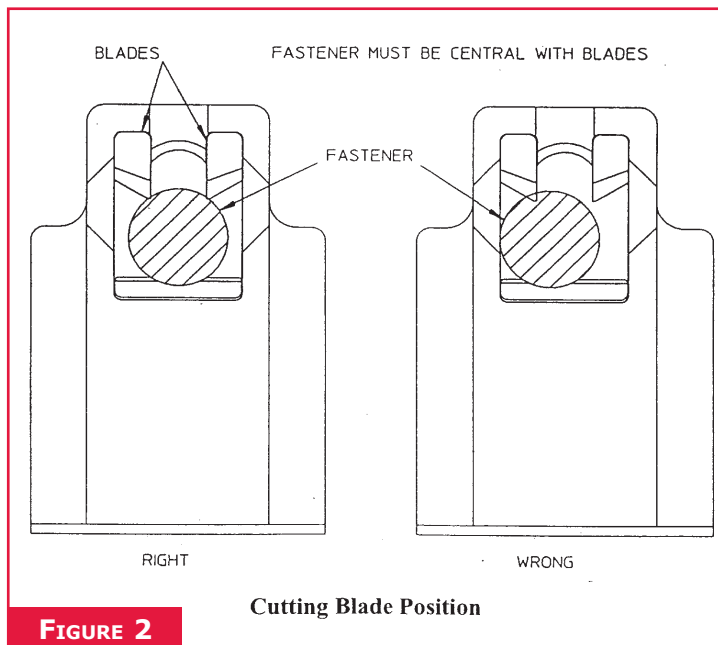

FIGURE 2
1. See Figures 2 & 4. Place tool over fastener to be removed as shown. See all cautions. Position of blades must be checked prior to triggering tool.